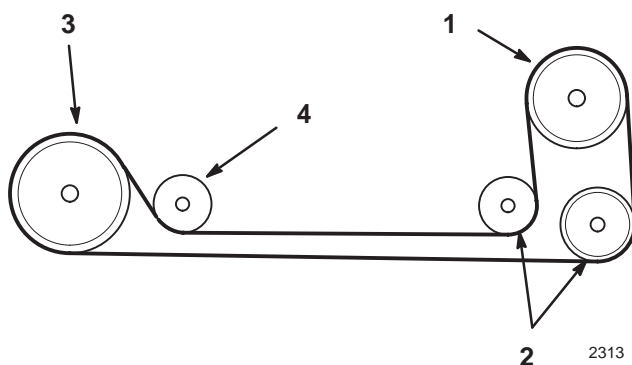

Figure 29
7. Route belt around and mid-mount idler pulleys, below frame and behind right rear tire (Fig. 29).
8. Pull on idler arm spring to relieve tension and route belt around tiller drive pulley, under tiller idler and inside belt guide (Fig. 29).
9. Check that belt is properly routed around all pulleys and belt guide (Fig. 29).